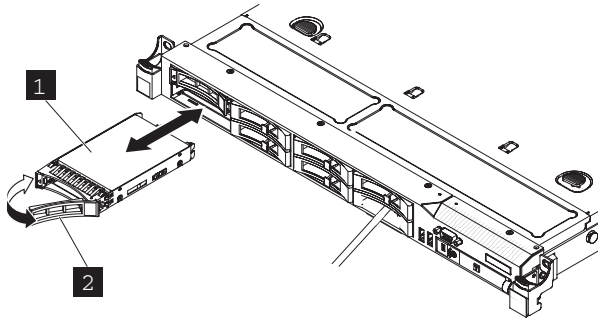

Figure 111. Solid-state drive (SSD) (SAN Volume Controller 2145-CG8 shown)
- b. Rotate the drive handle to the open (unlocked) position, as shown in Figure 111.